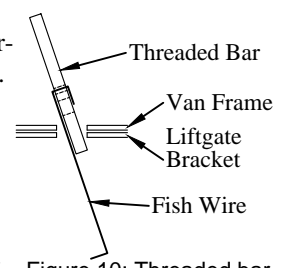

Figure 10: Threaded bar.
13. **Insert** the supplied threaded bar, with fish wire, into the unthreaded hole in the cross member (Figure 10).
15. **Fasten** the front channel assembly to the frame using one (1) supplied 3/8 bolt and washer (Figure 10).